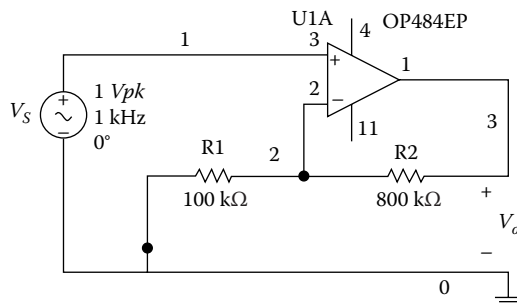

FIGURE P5.2
Problem 5.2 For the circuit shown in Figure P5.2, (1) build the circuit and use the Analog Discovery board to find the gain. (2) Compare the gain obtained in part (1) to the gain calculated using Equation 5.1.